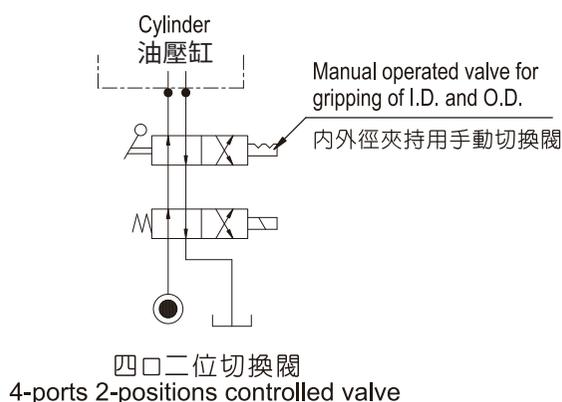

Fig.10
- 防止由內徑夾持切換至外徑夾持之錯誤操作，須提供一個 4 口 2 位電磁閥來保持固定其位置。(Fig.10)
- Provide the inner dia./outer dia. gripping change valve in order to prevent mis-operation when changing from the inner dia. gripping to outer dia. When the solenoid valve is used for this change valve. use the 4-port 2-position valve with position stop. The designation circuit is to be maintained.(Fig.10)